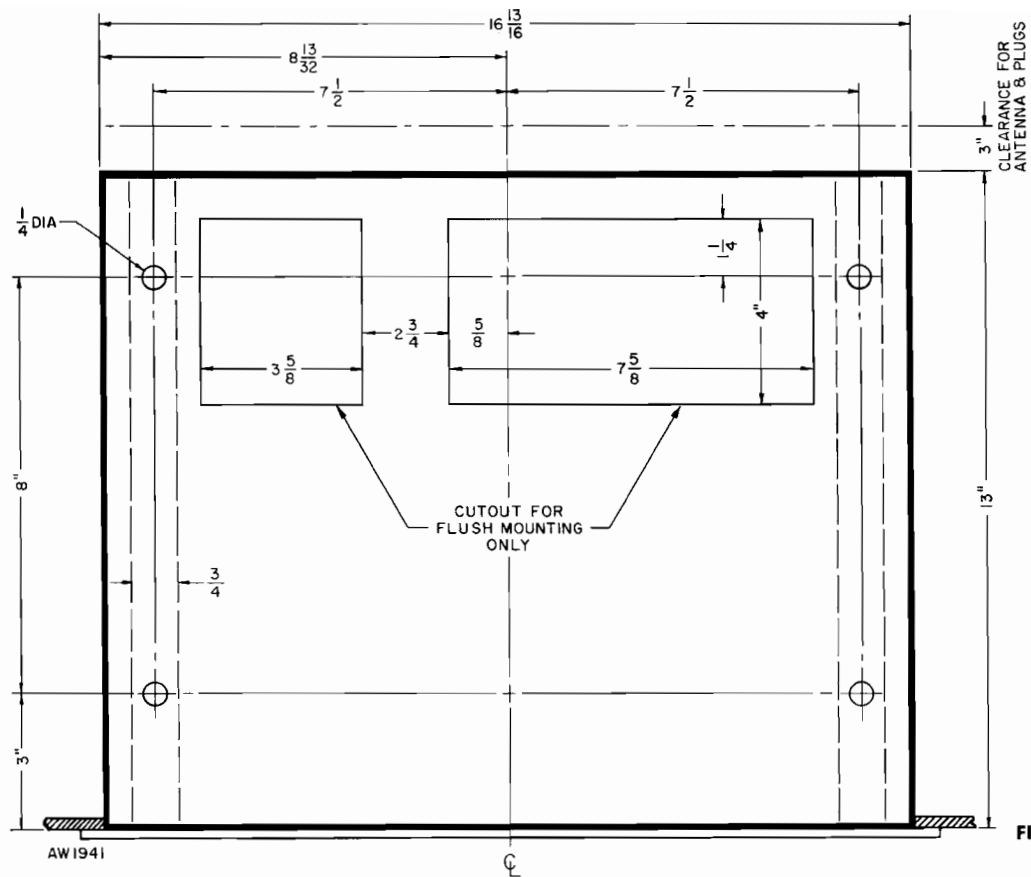

FIGURE 3. Top view of custom installation.
- 2—Fasten the two cleats to the top of the mounting board with wood screws in the position shown in Figure 3. Screw heads should be flush with the top of the cleats. Then locate and drill four $\frac{1}{4}$ -inch holes through the mounting board and cleats as indicated.
If the height of the custom cabinet will not permit you to mount the 500-B by means of cleats, as described in the preceding section, the chassis may be mounted directly on the cabinet shelf. If the chassis is mounted in this way, however, it is essential that cutouts be made in the shelf as shown in Figure 3, and that the back of the cabinet remain completely open, in order to provide proper ventilation. For a flush-mounted installation, proceed as follows:
- 1—Locate and drill the four $\frac{1}{4}$ -inch holes in the bottom shelf of the custom cabinet as indicated in Figure 3.
2—Saw cutouts in the bottom shelf following the outlines shown in Figure 3. It is absolutely essential that these cutouts be made as indicated so that the necessary ventilation will be supplied to the 500-B chassis.